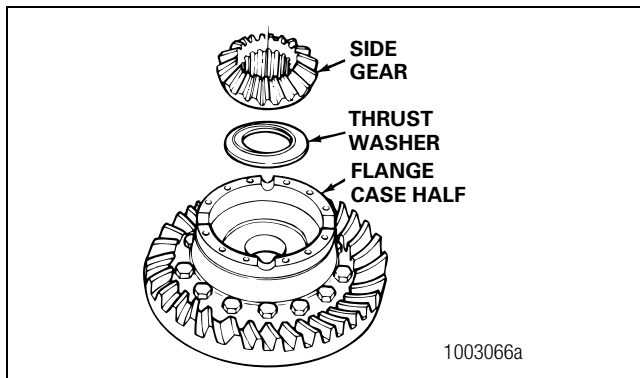

Figure 5.16
10. Install one thrust washer and side gear into the flange case half. Figure 5.16.